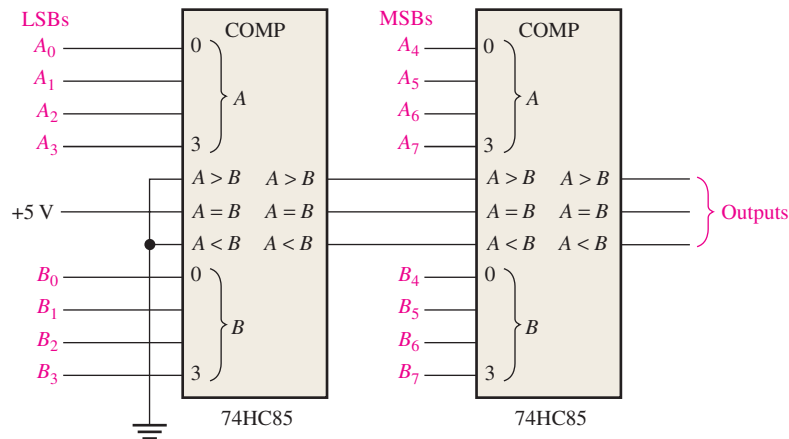

FIGURE 6-25 An 8-bit magnitude comparator using two 74HC85s.
Two 74HC85s are required to compare two 8-bit numbers. They are connected as shown in Figure 6-25 in a cascaded arrangement.
Expand the circuit in Figure 6-25 to a 16-bit comparator.
2. The binary numbers $A = 11001011$ and $B = 11010100$ are applied to the 8-bit comparator in Figure 6-25. Determine the states of the outputs on each comparator.